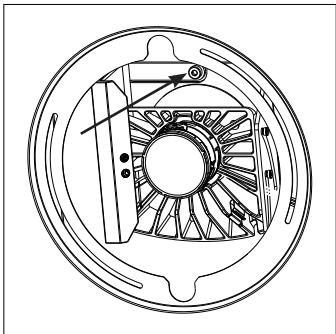

fig. 18 (lock)
- Unlock the emitter chassis by loosening the lock screw with a 4 mm hex tool (see fig 18).